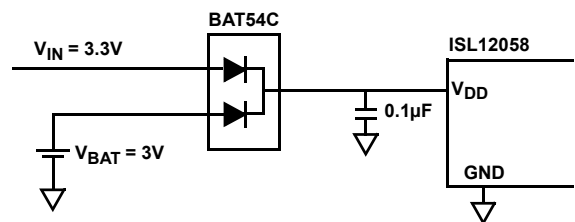

FIGURE 1. EXAMPLE CIRCUIT FOR SYSTEM REQUIRING BATTERY BACK-UP BY USING BAT54C ON V_{DD}
- A system requiring battery backup can implement a slight hardware change and use a BAT54C Schottky Diode on V_{DD} to accept a regular input voltage and battery voltage. Figure 1 shows the example circuit of using the BAT54C on V_{DD} .
- A system requiring battery back-up can implement a slight hardware change and use a BAT54C Schottky Diode on V_{DD} to accept a regular input voltage and battery voltage. Figure 1 shows the example circuit of using the BAT54C on V_{DD} .